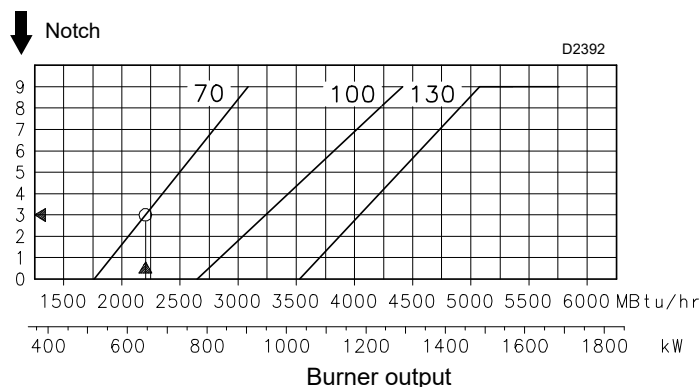
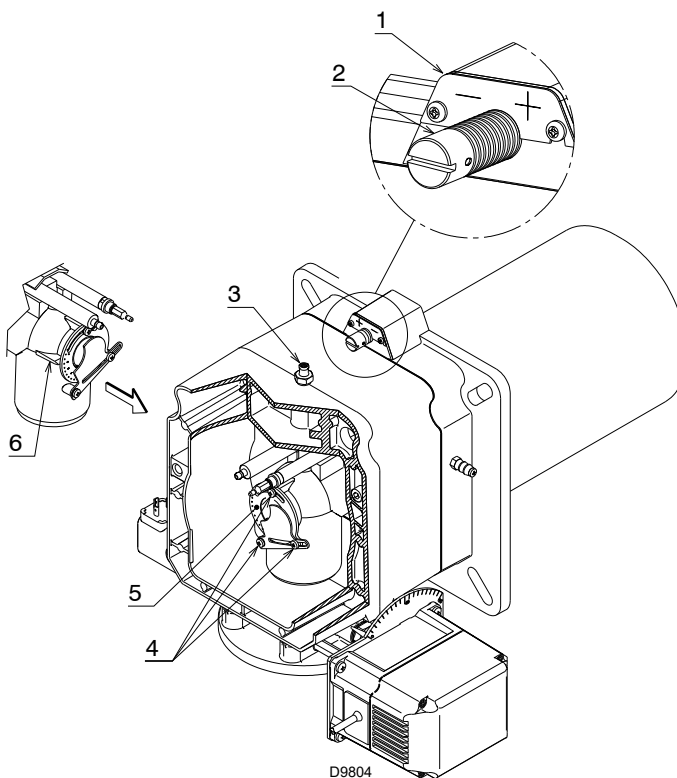

Fig. 15
Fig. 16
In the diagram of Fig. 15, find the notch at which to adjust both air and central gas/air.
Turn screw 4)(Fig. 16) until the notch identified is aligned with the front surface 5)(Fig. 16) of the flange.
To facilitate adjustment, loosen the screw 3) (Fig. 16), adjust and then lock.
- Loosen the 3 screws 1)(Fig. 16) and turn ring 2) until the notch identified is aligned with index 3).
If we consult diagram (Fig. 15) we find that for this output, air must be adjusted using notch 3.
Fig. 15 shows the ideal settings for the ring 2)(Fig. 16).
If the gas main pressure is too low to reach the maximum output operation pressure indicated in Fig. 21, page 23, and if the ring 2)(Fig. 16) is not fully open, it can be opened wider by 1 or 2 notches.
Continuing with the previous example, Fig. 22 indicates that for burner RS 70/EV with output of 2200 MBtu/hr a pressure of approximately 2.36 "WC is necessary at test point 6)(Fig. 16).
If the pressure cannot be reached, open the ring 2)(Fig. 16) to notch 4 or 5.
- Ring nut 2)(Fig. 16) adjusted as in the diagram of Fig. 15
- Ring nut 2) (Fig. 16) adjusted as in the diagram of Fig. 15